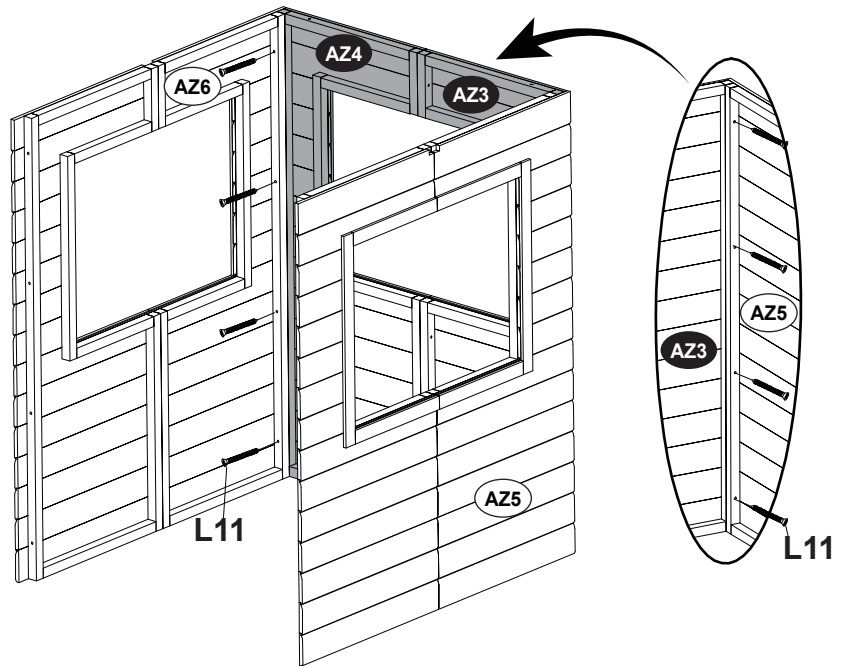

FIGURE 3
- Connect AZ5 to AZ3 using L11(4pcs) from inside as shown in Figure 3.